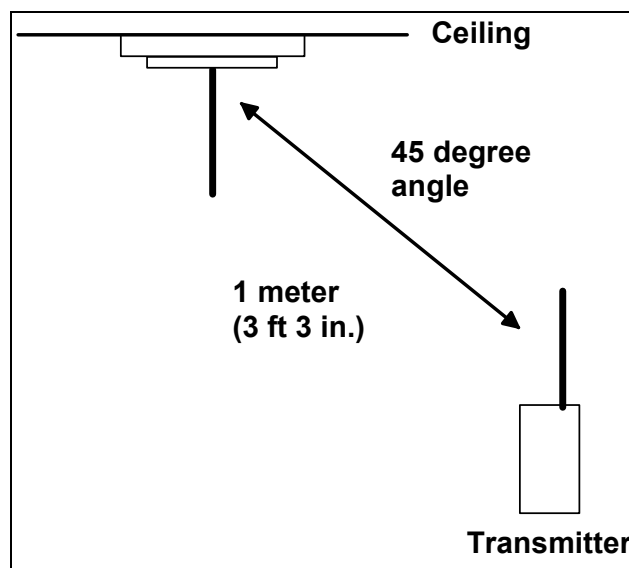

FIGURE 1-1
7. Apply 9V DC power to the antenna adapter. Obtain a reference RF level on the Spectrum analyzer by holding the test transceiver 1 meter from the antenna (shown in FIGURE 1-1).